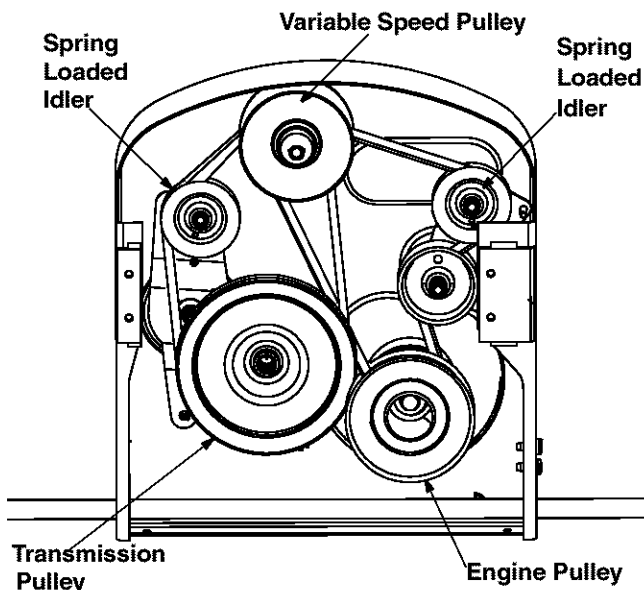

Figure 18
- Remove the rear deck belt guard following first five steps for deck belt removal. Remove belt from the engine pulley. See Figure 18.
- Push the spring loaded idler, located on the left side of the transmission, to the right. Remove belt from around the idler and then the transmission pulley. See Figure 18.
- Remove the engine pulley using a 5/8" socket wrench with a 6" extension. The engine pulley is located in front of the transmission. See Figure 18.
- Push the idler bracket to the right and remove the belt. See Figure 18.